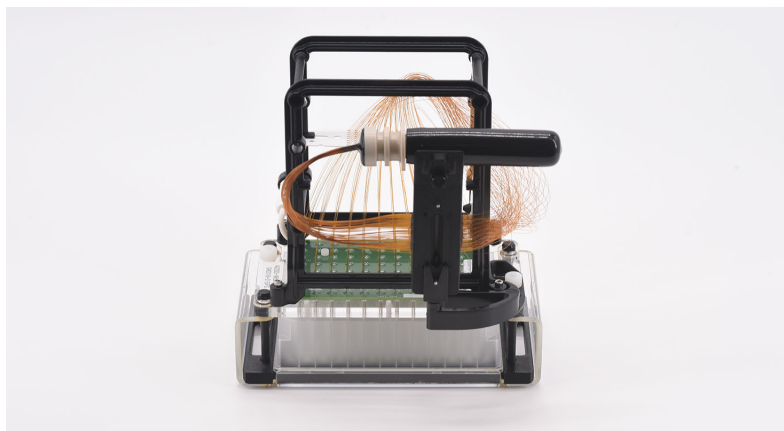

Figure 112 Array docking station with capillary array installed
- 5 Insert the two white screws as shown in **Figure 112** to tighten the capillary array into place.